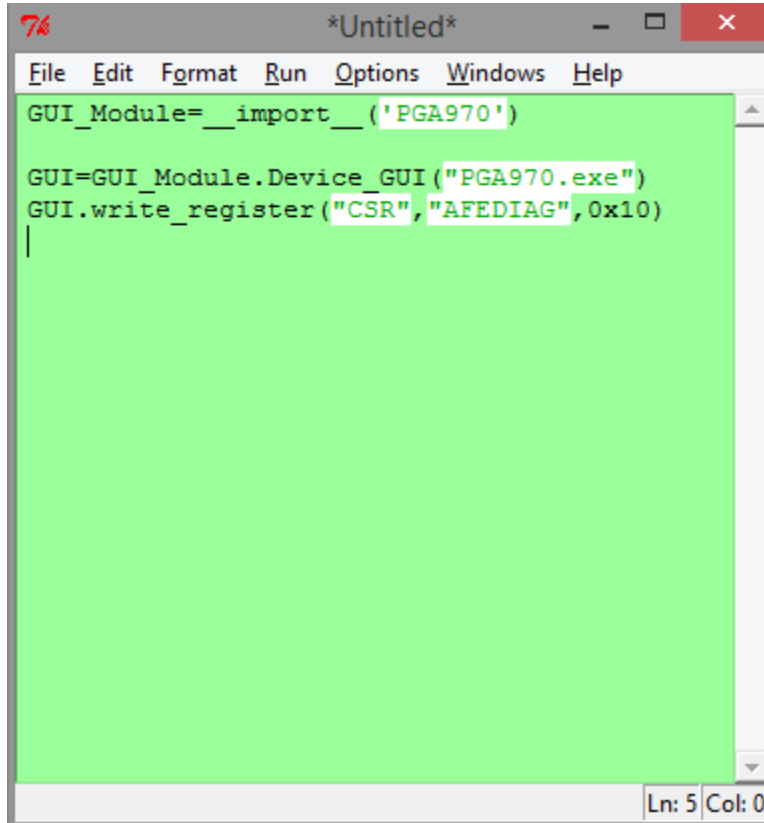

Figure 2-32. Macro Recording
- Go to Low Level Configuration Page of PGA970, select AFEDIAG register and write 10 to Data control and press Write Register. Action is recorded as shown in Figure 2-32.